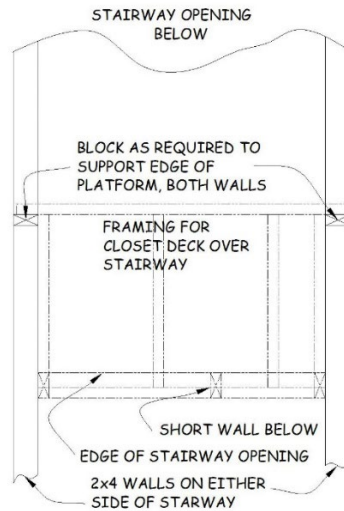

Figure 3-12. Stud Layout Around Stairway Opening.
- d. Locate the plates labeled ‘13¾” WALL/10¾” STUDS’ and layout two end studs and one interior stud 24” o.c. (see Figure 3-12 and Section 6.4).